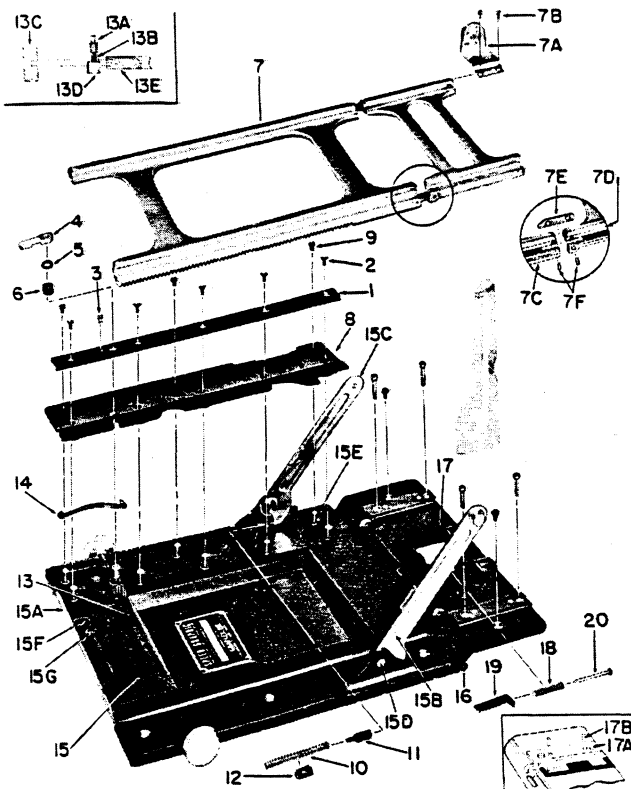
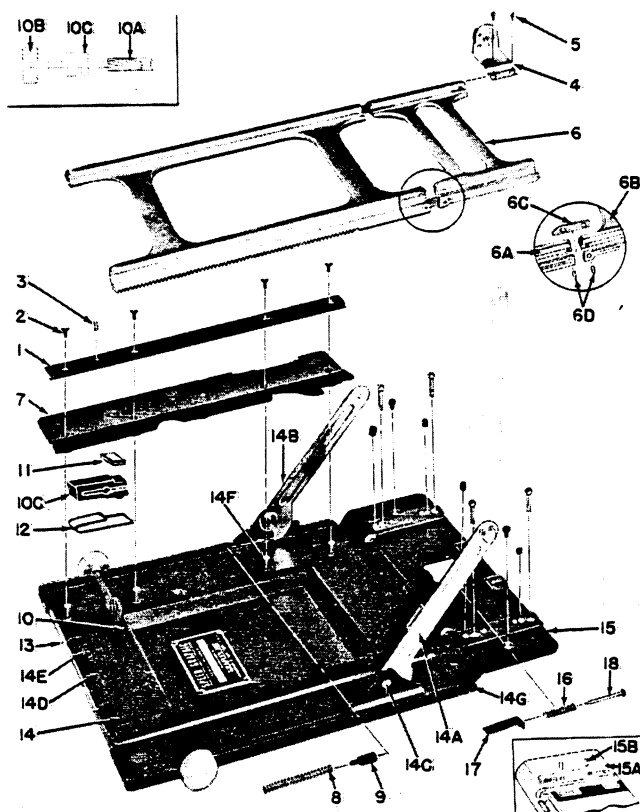

Figure 9. "34" and "45" Graphic Bed
Figure 10. "23" Speed Bed
b. On "34" and "45" cameras remove the bed section guide (1, figure 9) by removing machine screws (2).
Key to Figure 9. "34" and "45" Graphic Bed
c. On "23" cameras remove the bed section guide (1, figure 10) by removing guide and block screws (2).
d. Rack the yoke assembly (7) forward until the rear case yoke section is free of the hinge guides. Lift the yoke assembly (7) from the bed.
e. On "34" and "45" cameras remove block screws (9, figure 9) from the bed block (8). When the bed block is lifted from its position care should be taken so that the bed brace spring (10) does not throw and lose the bed brace plunger (11).
f. On "23" cameras lift the bed block from its position being careful that the bed brace spring (8, figure 10) does not throw and lose the bed brace plunger (9).
g. On "34" and "45" Graphic beds swing the yoke lock lever (4, figure 9) clockwise so that the special fillister head screw (3) can be removed. Unscrew the yoke lock lever (4). Remove the flat washer (5) and the yoke lock sleeve (6).
i. Lift the pinion assembly (13) from the bed. Do not lose the focusing pinion springs at each side.
Key to Figure 10. "23" Graphic Bed
b. The bed throw-out slide (19) should have its sliding surfaces wiped with a film of the above lubricant.
c. Assemble the case section guide (17A) to the hinge assembly (17) by using two dowel pins (17B) in each guide.
a. On "34" and "45" cameras lay the focusing pinion assembly (13) in the bed with the yoke lock post (13B) on the right hand side. Position the focusing pinion spring (14) at the extreme inside end of the pinion.
b. On "23" cameras position the pinion assembly (10, figure 10) on the bed with the four yoke lock brakes (10C) close together and resting on the focusing pinion spring (12).
a. To assemble the bed block (8) on "34" and "45" cameras, insert the stud of bed brace plunger (11) into the bed brace spring into space provided on the under side of the bed block and hold in position by use of the spring retaining clip (12) that clips around the spring and over the rib on the bottom of the block. Check the position of the focusing pinion spring (13) so that it will fit in the block cavity that is provided. Lower the block into position over the guide and block screw bushings (15E). Be sure that the edge of the leather is tucked in between the block and the bed. On "45" cameras only, assemble three bed block screws (9).
b. On "23" cameras insert the stud of the bed brace plunger (9, figure 10) into the space provided on the under side of the bed block (7). Place the brake plate (11) on the cut-out portion on top of the yoke lock brake (10C) and lower the block into position over the guide and block screw bushings (14F). Assemble the bed section guide (1) and secure with four machine screws (2).
f. On "23" cameras it may be necessary to readjust the guides or to increase tension on the yoke lock brake (10C, figure 10) by gently tightening the set screw (3) until the desired tension on the pinion is reached.